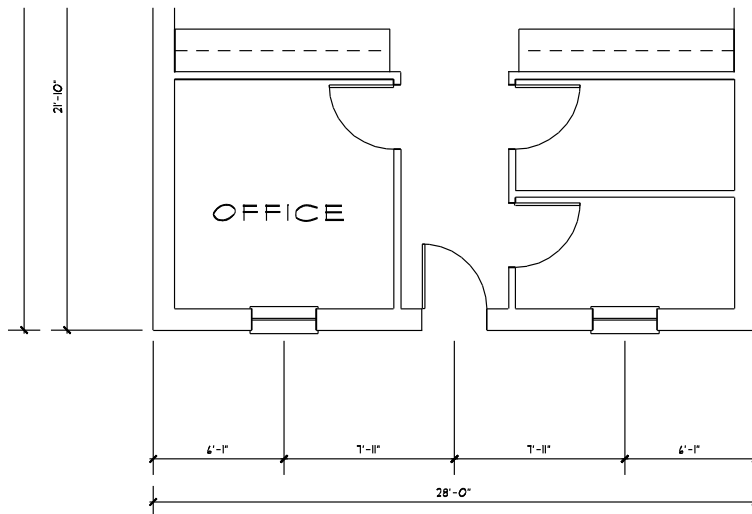

Figure 4.13: The front wall is dimensioned.
15. Click on Overall to place an overall dimension. The front wall is dimensioned. (See Figure 4.13)